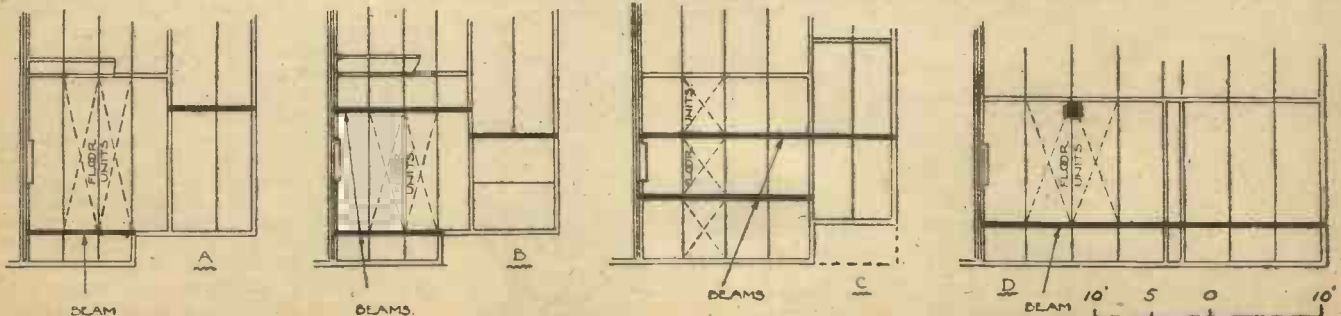

Fig. 49.—Four plans, A, B, C and D, showing different layout of floor units to accord with structural essentials as explained in text.
tion in floor units, or any beams which support them, than $\frac{1}{360}$ th of span, which is required by most building Acts. The limit used to be $\frac{1}{480}$ th, which was deemed advisable to avoid inconvenience and cracking of plastered ceilings. With the above loads and deflection limitation in mind, it is possible to consider good designing principles, and for this purpose the four typical plans, as Fig. 49, should be studied. At A is shown what appears to be a very simple design for the units, but an investigation will prove that the span of the main units makes it necessary to use joists of a depth as shown at (1) in Fig. 50, which is excessive according to pre-building codes; such depth not only causing the units to be heavy, but may increase the height of the whole building by a few inches more than it need be if other methods of designing the units are adopted. B depicts the inclusion of two beams over the living room, positioned so as to provide a ceiling of neat beamed appearance. In this case the length of the main floor units is considerably less than those at A, and the depth of joists which may be used are shown at (2) Fig. 50. At C is shown what I consider to be a very economical design of the floor units. The units are of short span, which permits the use of 3in.-deep joists, and a total thickness, including flooring and ceiling covering, of about 4ins., and, the units are light in weight. This layout is shown particularly to illustrate the good results which may be achieved by the careful use of beams; it must not, of course, be overlooked that beams may be rather costly items, but against this cost is the saving caused by a reduced height of building due to the floor being 4ins. instead of a greater thickness, that is, if the beams are allowed to project in the normal storey height. At D, Fig. 49, is shown another layout of beams and floor units. In examples A, B, C and D, the beams are parallel to the front wall, or width of